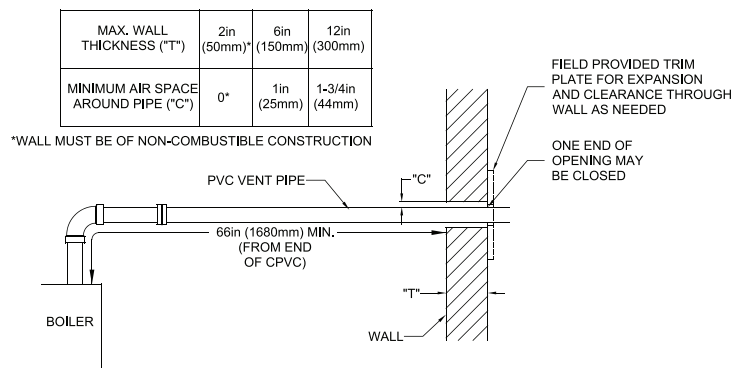

Figure 12: Wall Penetration Clearances for PVC Vent Pipe
- PVC vent pipe may not be used to penetrate combustible or non-combustible walls unless all following three conditions are met simultaneously (see Figure 12):
- An air space of at least of that shown in Figure 12 is maintained around outside of the vent pipe to provide air circulation
- Install contractor provided optional trim plate on wall outside surface to cover wall opening (see Figure 12).